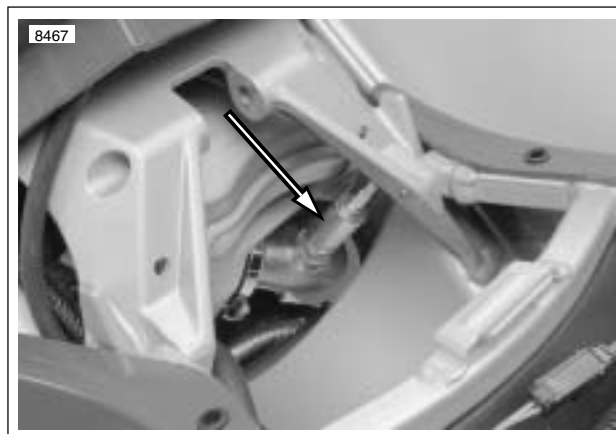

Figure 4-72. Installed Oxygen Sensor (shock absorber removed)
See Figure 4-72. The oxygen sensor (O2 Sensor), located in the rear header pipe, monitors oxygen content in the exhaust gas and converts it to a voltage reading. This voltage reading is used by the ECM to maintain the proper air/fuel ratio during closed loop operation.
2. See Figure 4-72. Thread sensor into exhaust header. Tighten sensor to 40-45 ft-lbs (54-61 Nm).